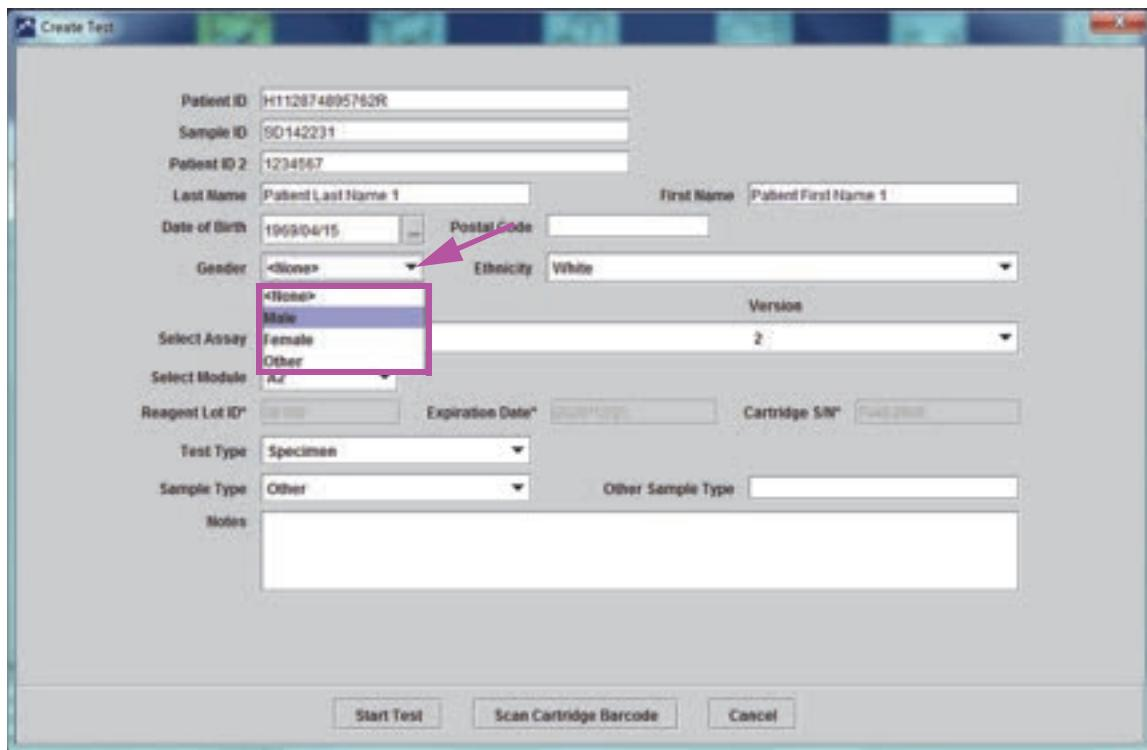

Figure 5-26. Create Test Dialog Box with the Gender Field Shown
- C. **Gender**—Click the drop-down arrow in the **Gender** box and select the appropriate gender from the drop-down menu that appears (see Figure 5-26).